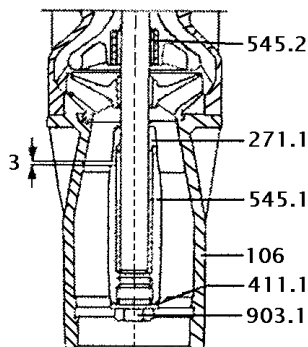

Fig.27 – Installation dimension for the sand guards
9. Mount suction casing (106) (545.1) and bolt it on.
10. Slip on sand guard (271.2) at the discharge end and fasten it onto the shaft with a set screw. See Fig. 27 for correct distance between threaded bush (545.1) and sand guard (271.1).